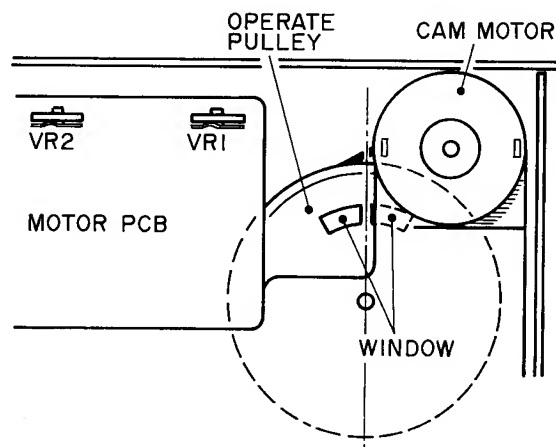

Fig. 2-12 Position of Operate Pulley in STOP Mode
- Adjust VR1 slightly so that a center line between windows of the operate pulley will face directly above during STOP Mode. (Fig. 2-12)